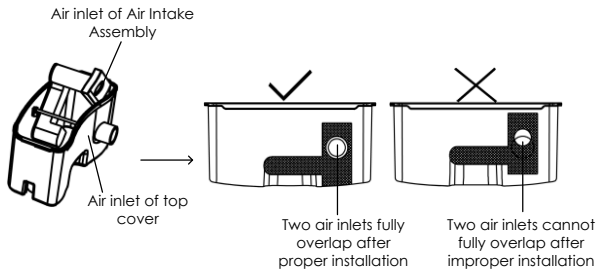

Figure 5-4
7. **Install the water chamber:** First install the sealing element onto the air intake tube, and then install the Air Intake Assembly in the top cover of the water chamber. Make sure the assembly is installed properly, namely that the air inlets of the Air Intake Assembly and the top cover should fully overlap each other (See Figure 5-4). At last, push the base and top cover of the water chamber hard until they click into place (See Figure 4-8).